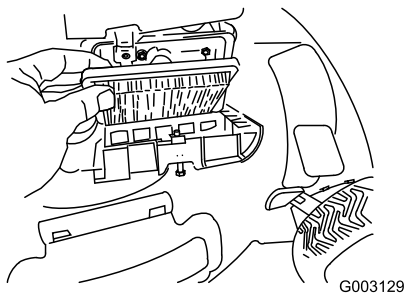

Figure 36
4. Install the cover (Figure 36).